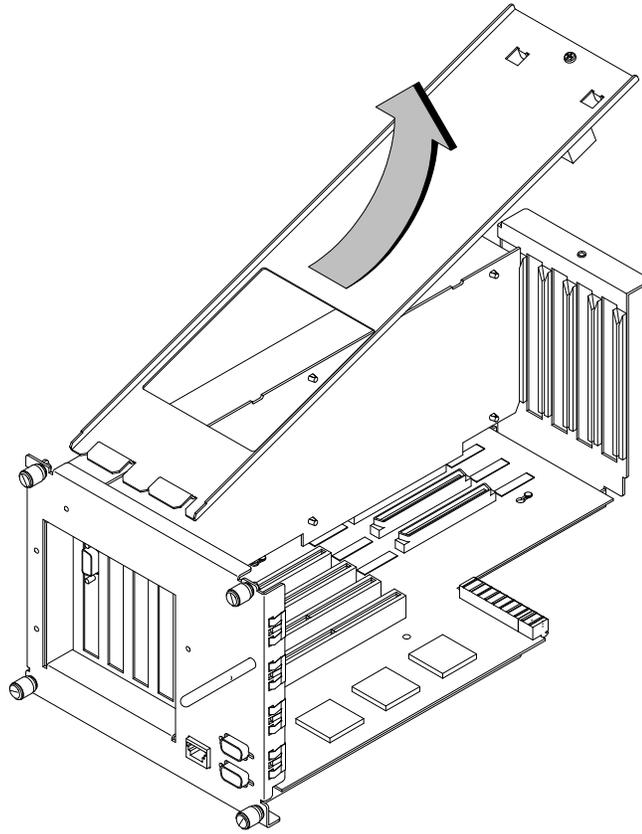

Figure A-34. Removing the EISA Assembly Cover
3. Unscrew one screw at the back of the cover and lift the cover up and out to remove it from the EISA Assembly. See Figure A-34.